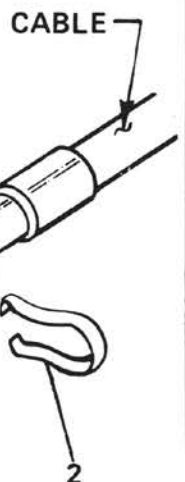

FIGURE 2
2. Consult motor manufacturer's manual to determine requirements for cable travel dimensions. Slide one Adapter (item 1) over engine end of each cable until slot in Adapter is aligned with groove in cable end fitting, as shown in Figure 2. Insert Retainer Spring (item 2) into the appropriate slot and snap into place. Be sure Retainer Spring is fully seated, locking Adapter securely to cable as shown. Replace wiper cap on cable swivel tube.